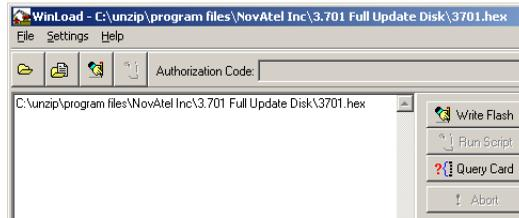

Figure 27: Open File in WinLoad
Once you have selected your file and clicked Open, the name of the file appears in the main WinLoad display area and in the title bar, see *Figure 27*.
3. Make sure the file path and file name are displayed in main display area, see *Figure 27, Open File in WinLoad* on page 89.